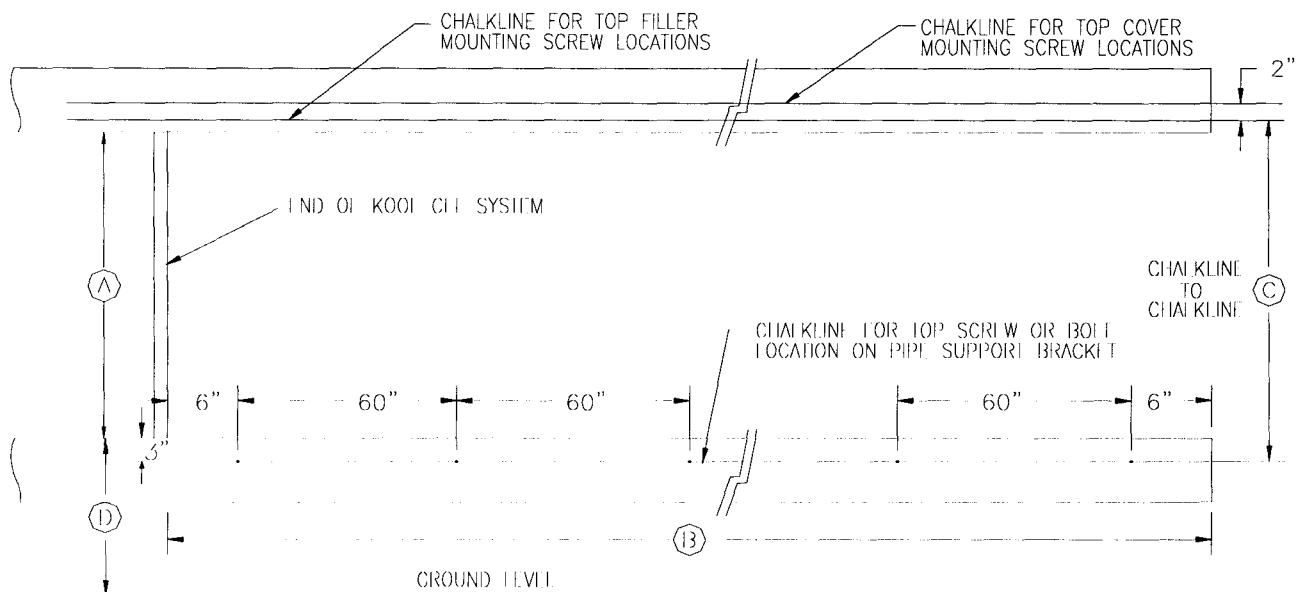
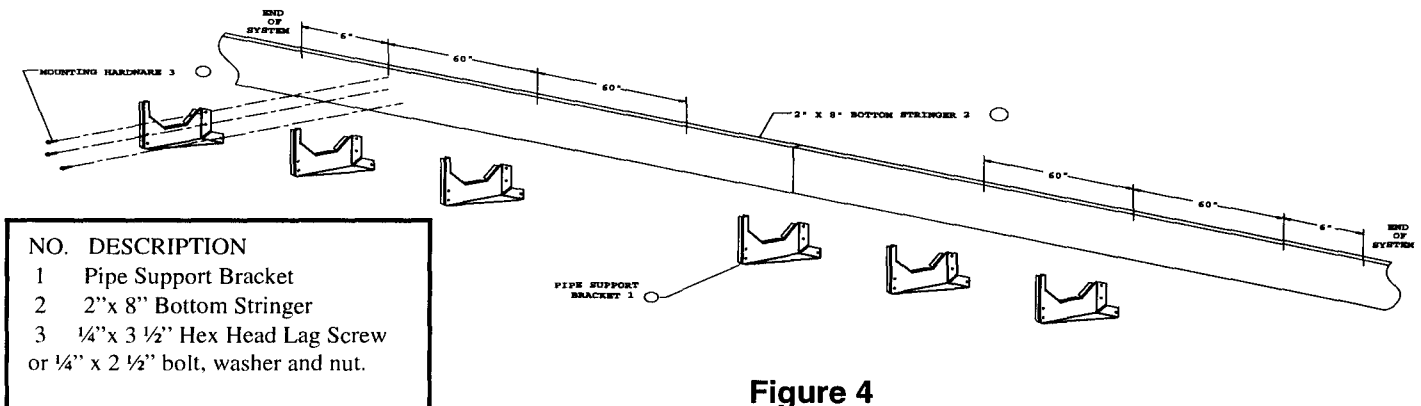
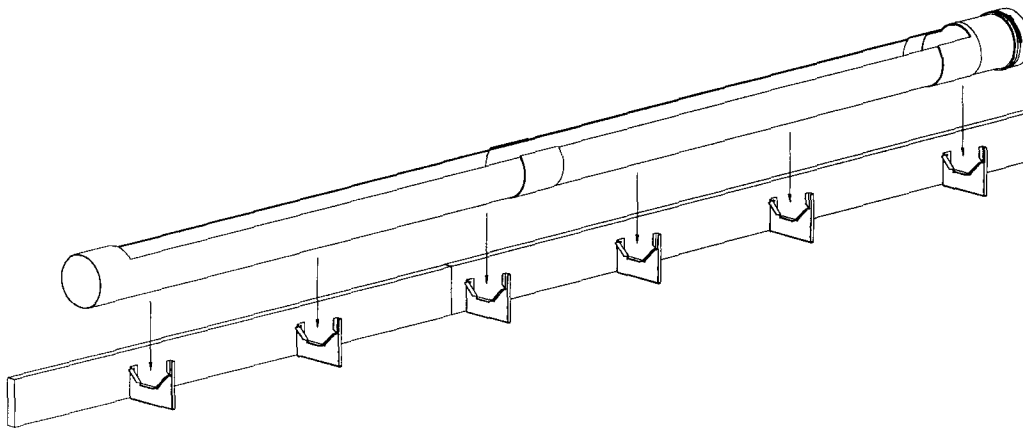

Figure 3
Figure 4
Figure 7
- A) To locate the pipe support bracket position on the bottom stringer for the 8 inch pipe, refer to chalk line shown in Figure 3. The chalk line should be 3” down from the top of the bottom stringer and run its full length. The chalk line will be used to locate the top hole position of the brackets. Hole spacing is shown in Figure 3 and Figure 4.
- B) Locate the box containing the pipe support brackets. Install all pipe support brackets as shown in Figure 4, making sure brackets are vertical. Note: The bracket's top hole should be on the chalk line. Lag screws are shown. They are to be used if going into the 2x8 material at a 4x4 post location. If going into the 2x8 material at a location other than the 4x4 post, use the 1/4" x 2 1/2" bolts, washers and nuts.
- G) Place the entire pipe assembly on the pipe supports as shown in Figure 7. The end of the cut opening in the pipe on the pump end should be 12 inches from the first pipe support as shown in Figure 4.
1. Locate the top filler and attach to the top stringer using the $\frac{1}{4}$ x $1\frac{1}{2}$ inch hex head screws provided as shown in Figure 14. Note: The end of the top filler should be aligned with the end of pad support. The screw location for the top filler holes is shown in Figure 3.